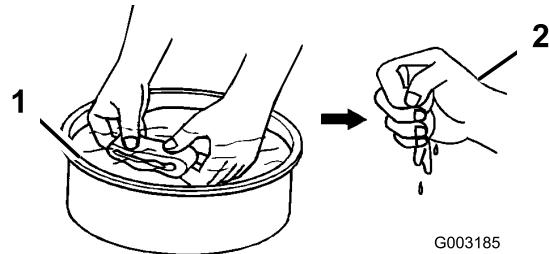

Figure 22
1. Wash the foam element in warm, soapy water or nonflammable solvent. Squeeze the element, but do not twist, and allow it to dry thoroughly (Figure 22). Do not use gasoline as a cleaning solvent.